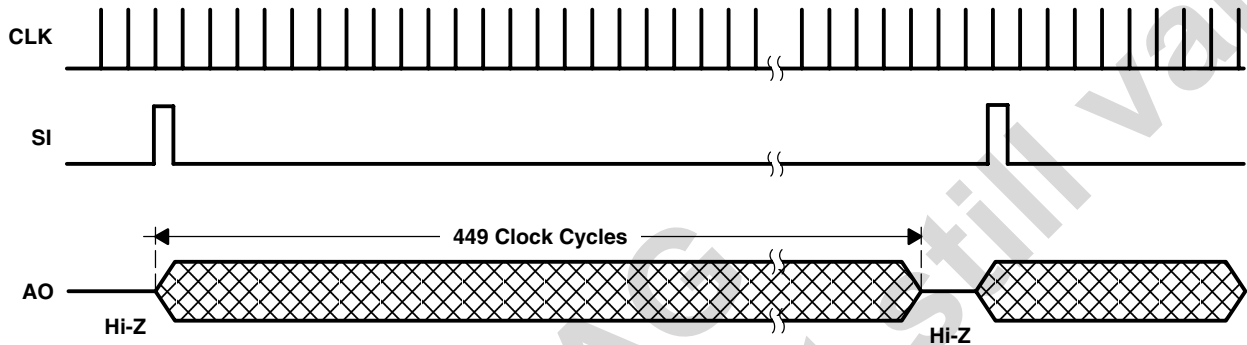
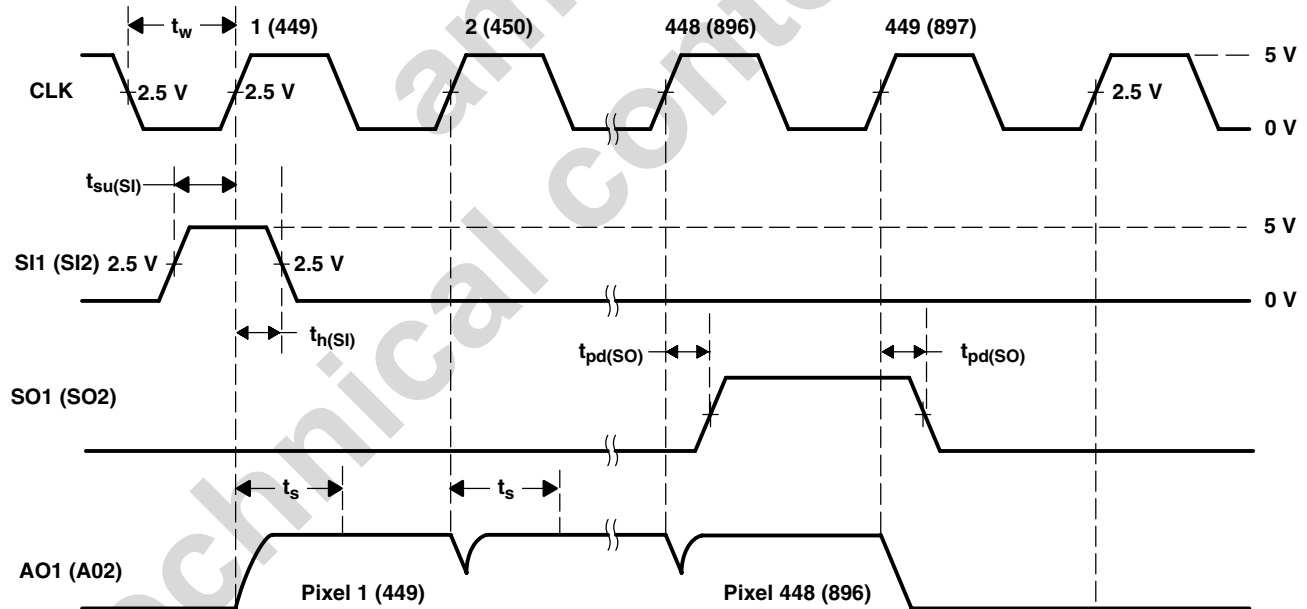

Figure 1. Timing Waveforms (each section)
Figure 2. Operational Waveforms (each section)
The output and reset of the integrators is controlled by two 448-bit shift registers and reset logic. A 448-pixel output cycle is initiated by clocking in a logic 1 into the SI input of a section for one positive going clock edge (see Figures 1 and 2)[†]. The two 448-pixel sections may be operated independently using a single clock input or connected in series to form a 896-pixel array. Each section has an independent output (AO), which may be connected together for the 896-pixel function.
Recommended Operating Conditions (see Figure 1 and Figure 2)
Timing Requirements (see Figure 1 and Figure 2)
Dynamic Characteristics over recommended ranges of supply voltage and operating free-air temperature (see Figure 2)